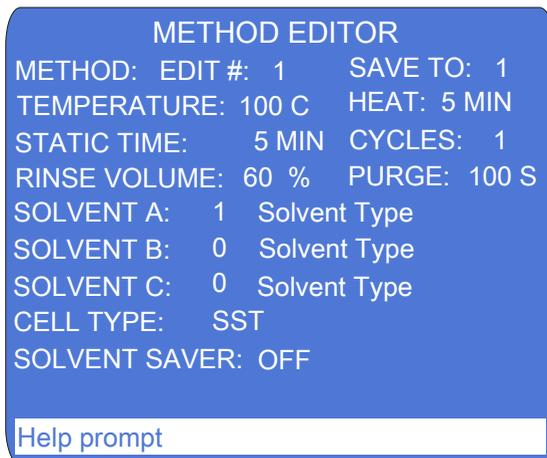

Figure 3-30. Method Editor Screen (Default)
2. With the cursor in the **METHOD EDIT #** field, enter zero to display the default parameters (see Figure 3-30).